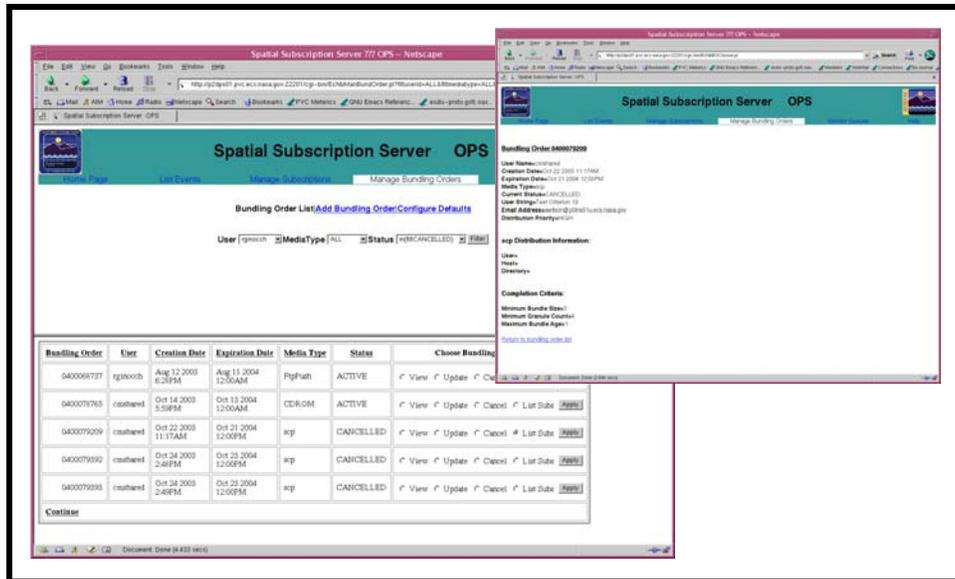

Figure 16.1-11. Manage Bundling Orders Page (Part 1)
- The **Manage Bundling Orders** page is displayed (see Figure 16.1-11).